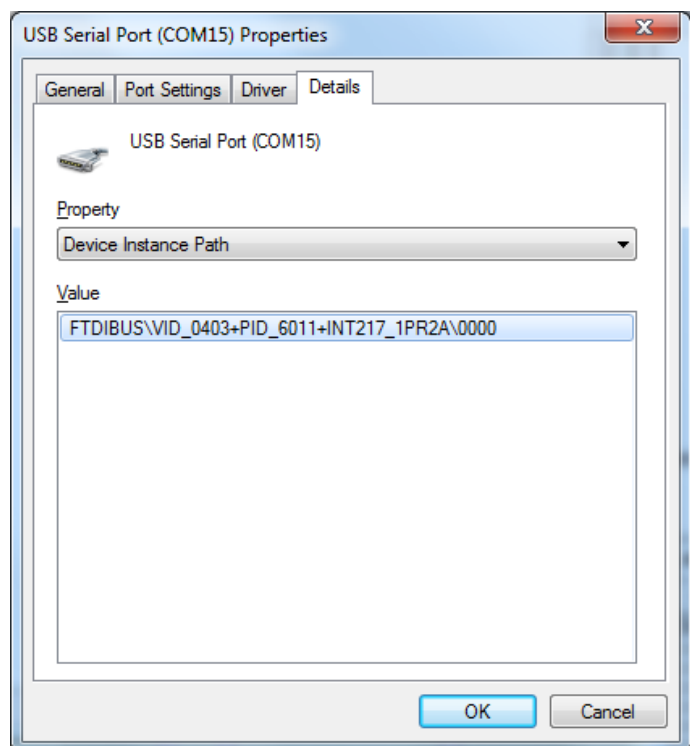

Figure 2
- Choose "Device Instance Path" (see Figure 2).